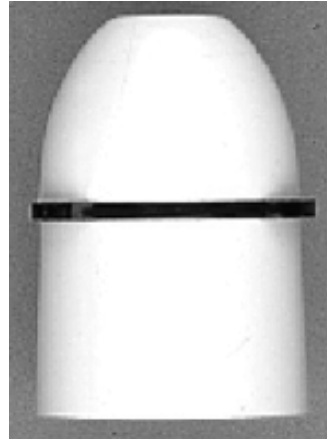

Figure 14.
Figure 14 illustrates a standard Bayonet Cap (BC) lampholder. BC lampholders are normally found in domestic installations. They are also available with a long shield. The shield, which is screwed on, is also used to retain any lampshade, which may be fitted.